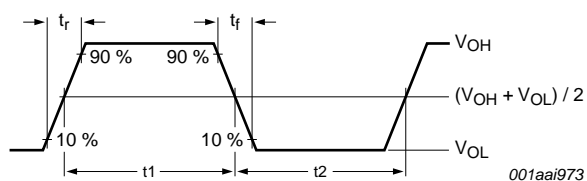

Fig 13. Definition of output and input transition times
- [5] The transition time and the duty factor definitions are shown in Figure 13 on page 20; $\delta = t_1 / (t_1 + t_2)$.